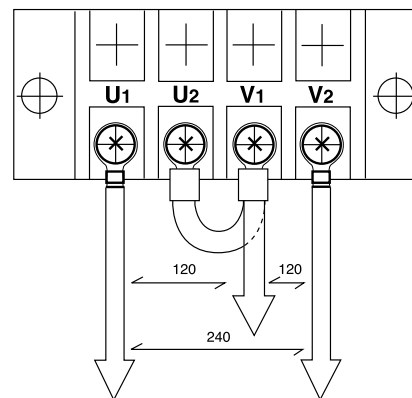

Figure 30: Output Terminal Board, 120/240 Volt Output
- b. Connect U2 and V1 on the output board (Figure 30). Connect output leads to U2 and V2 and neutral lead to V1 (or U2). 240 volt output is available from the leads connected to U1 and V2. The 120 volt load should be divided as equally as possible between two 120 volt circuits.